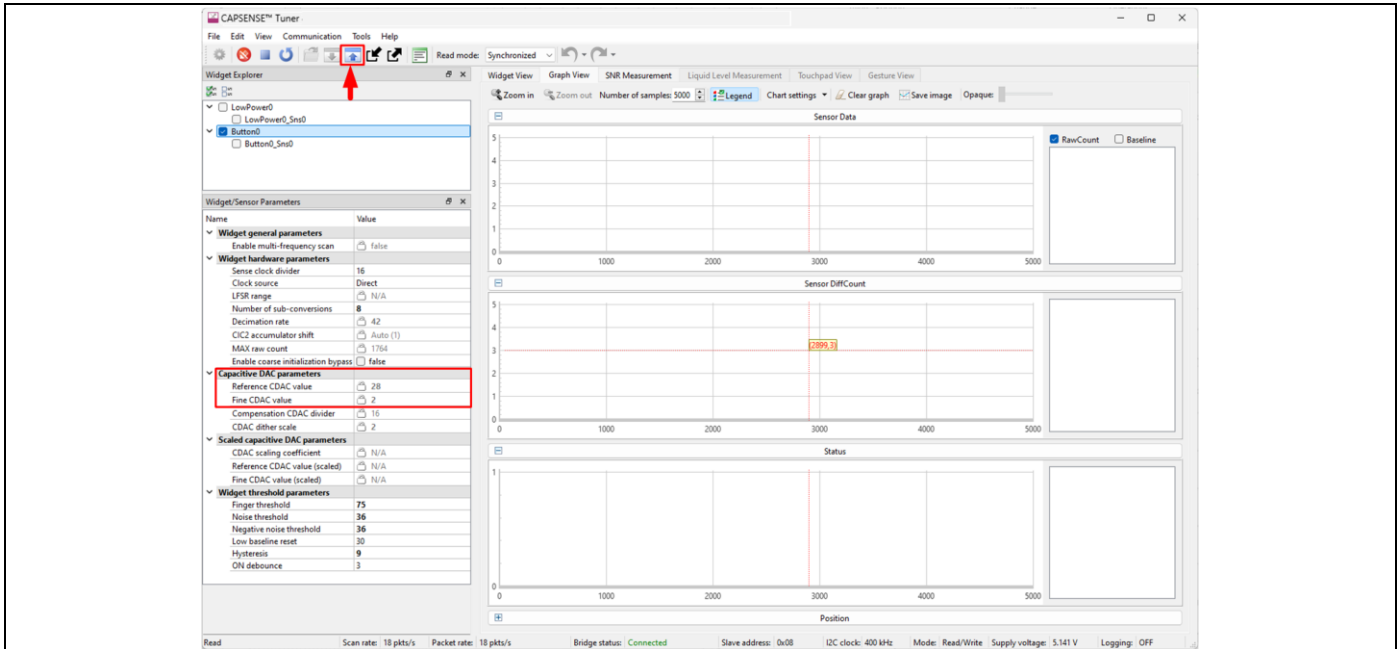

Figure 24 Applying CDAC parameters from the CAPSENSE™ Tuner
- Set Manual tuning mode only for Reference CDAC mode and Fine CDAC mode parameters. You can see the CDAC values observed in Figure 24 when CDAC was set to **Auto**